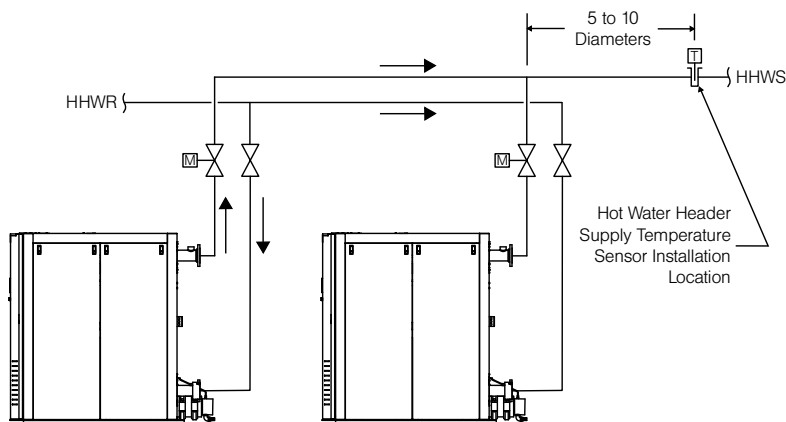

Figure 1 - Variable Primary Piping
3. For variable primary piping arrangements (Fig 1) install the sensor in the common supply header 5 to 10 pipe diameters downstream of the last boiler tie in point.